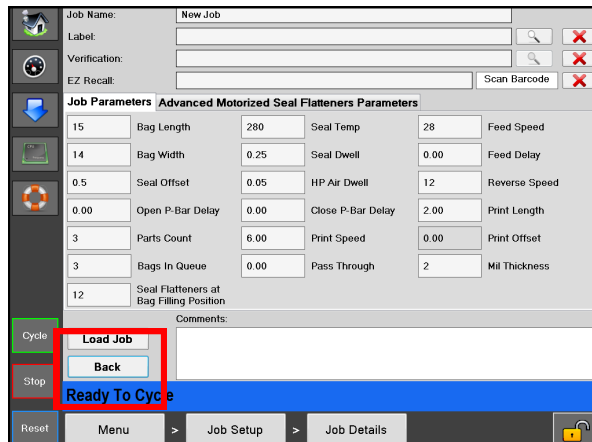

Figure 5-3B. Job Details Screen.
3. Edit the appropriate information in each box. Figure 5-3B.
4. Press the back button. Figure 5-3B.